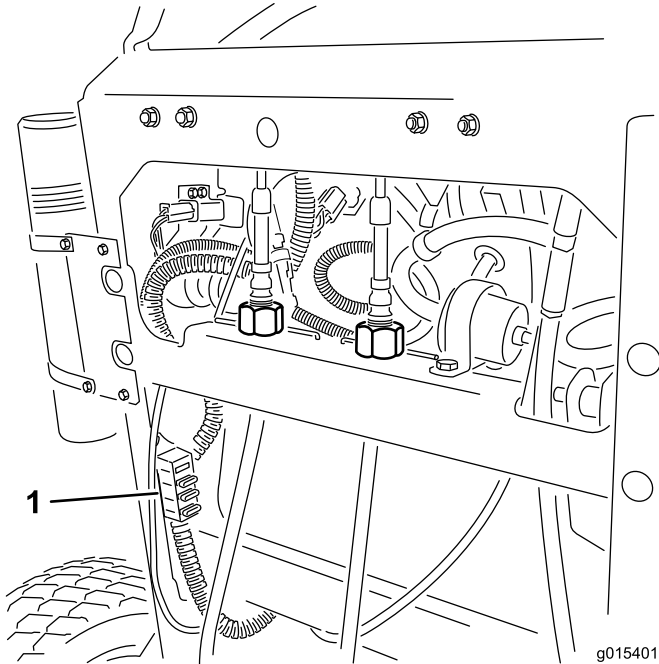

Figure 54
2. Pull out on the fuse to remove or replace it (Figure 54).
**Note:** Ensure that the correct-size fuse is installed Figure 54.